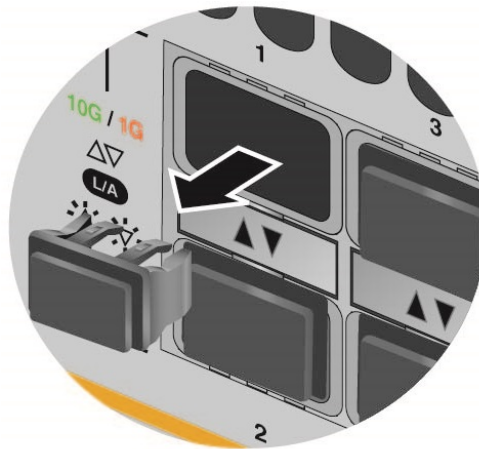

Figure 64. Removing the Dust Plug from an SFP Slot
2. If the slot has a dust cover, remove it. Refer to Figure 64.
1. If the slot has a dust cover, remove the cover. Refer to Figure 64 on page 110.